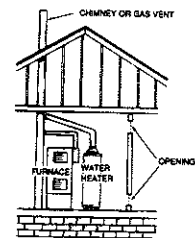

Figure 6
a. **ALL AIR FROM INSIDE BUILDINGS:** (See Figure 6 below)